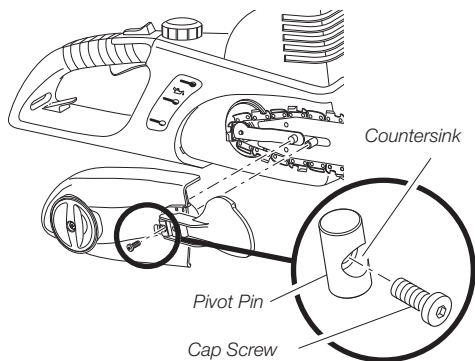

Figure 18 - Inserting Low Head Cap Screw into Pivot Pin
4. Place lever, in open position, onto sprocket cover (see Figure 18).
IMPORTANT: The low head cap screw must be inserted into the countersunk hole in the pivot pin in the lever (see Figure 18). The lever will not function properly if low head cap screw is not installed correctly.